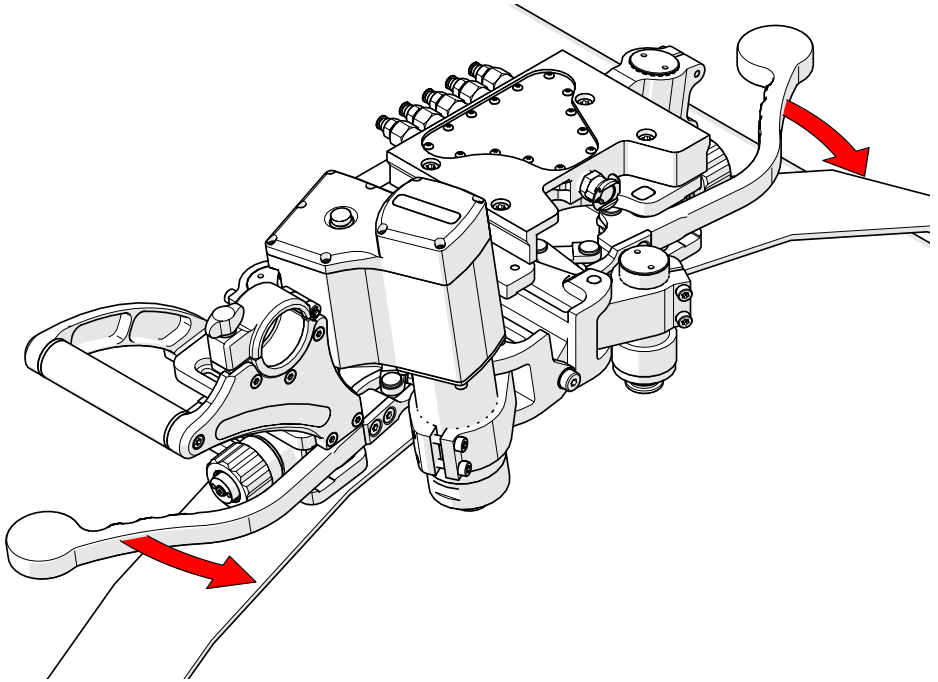

Fig. 52 - Press the clamp levers to mount the carriage to a band.
1. Press the clamp levers to mount the carriage to the band (Fig. 52).